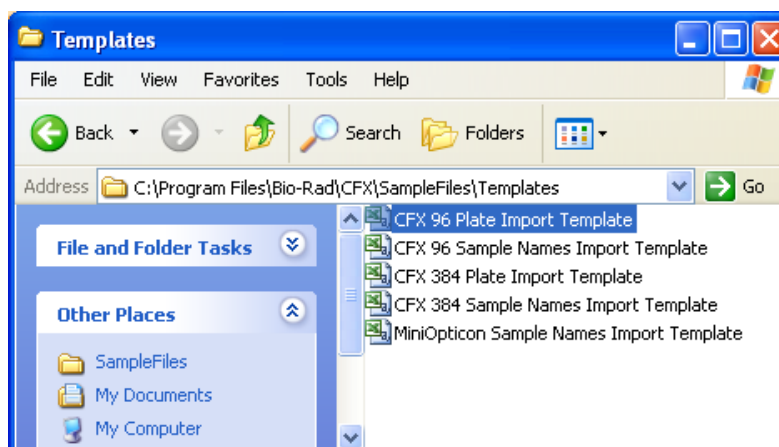

Figure 101. Opening the LIMS CFX96 Plate Import Template
2. Select either **CFX96 Plate Import Template.csv** or **CFX384 Plate Import Template.csv** and import into your internal LIMS (Figure 101).